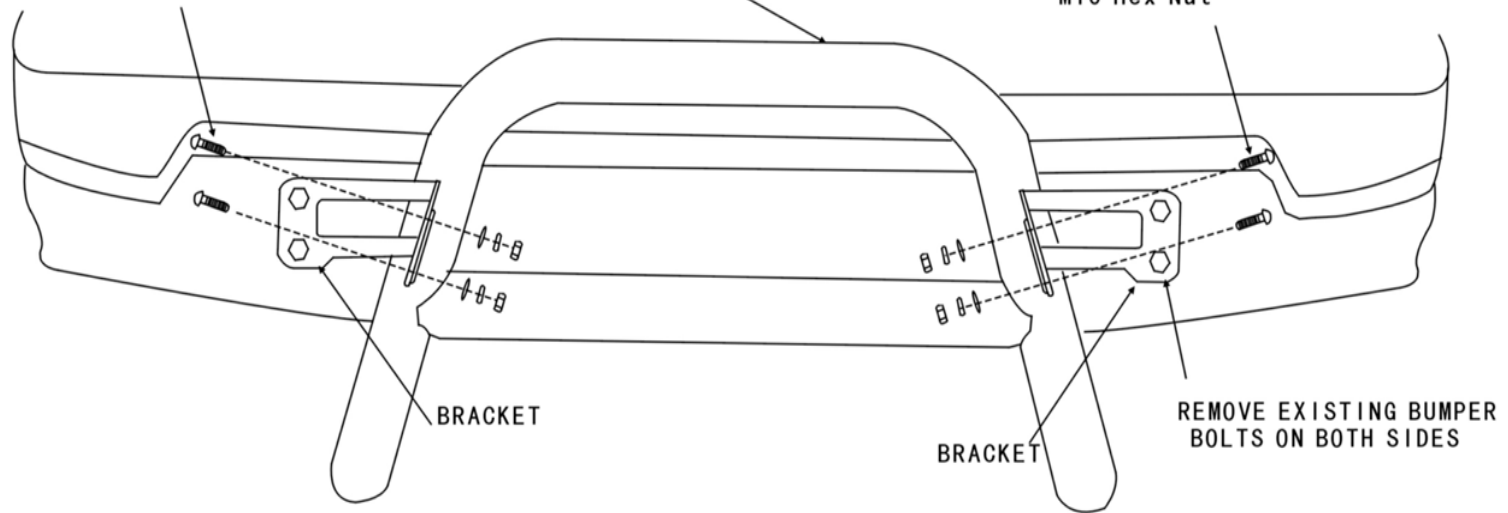

FIGURE 2
4. Determine passenger and driver bracket. See figure 2. Locate and remove front bumper bolts that support the bumper to vehicle. Note: It may be necessary to hold the factory nut plate from the rear of the bumper to keep it in place. Attach brackets to bumper and reinstall bolts.
5. Attach bull bar to brackets using M10 bolt sets as shown. Level and adjust bull bar as desired. See figure 2.